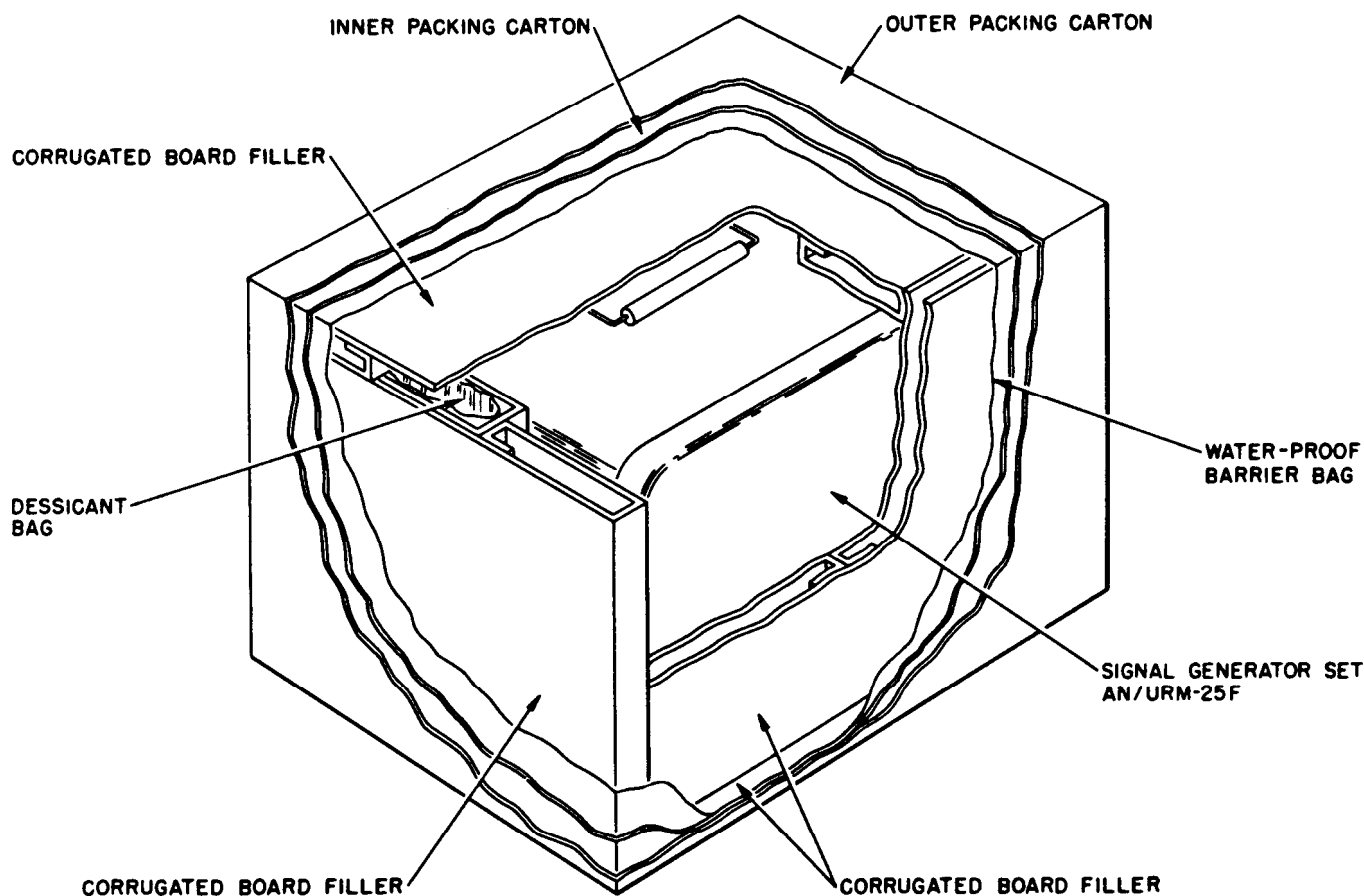

Figure 3-1. RF Signal Generator AN/URM-25F Packaging Diagram
1. UNPACKING. (See figure 3-1.)